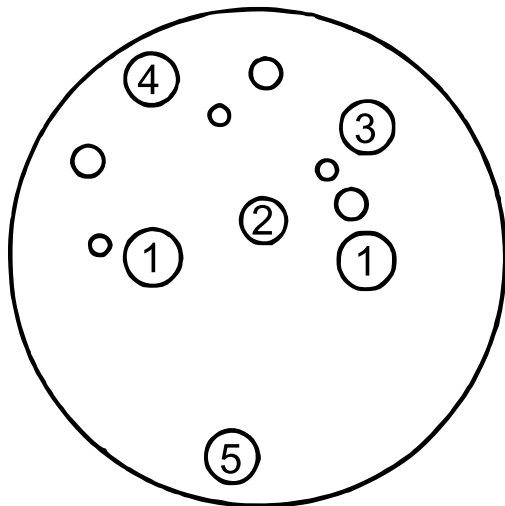

Figure 2
1. Remove the mounting plate for dies (4) by removing the two hexagon screws. Loosen the stop (2).
2. Pull the bending block unit (16, 17, 22–24) all the way back. Remove the front plate of the bending block (16) by unscrewing the corresponding hexagon screw (17). Thus, the swivel joint (22) of the bending blocks is exposed.
**For steps 3, 4 and 8 see Figure 2**
3. Attach the spring-forming mounting die (32) with two hexagon screws (in position 1).
4. Set the spring pin (25) of the spring-forming die "A" (31) in hole 3 and attach the long hexagon screw (26) in position 2.